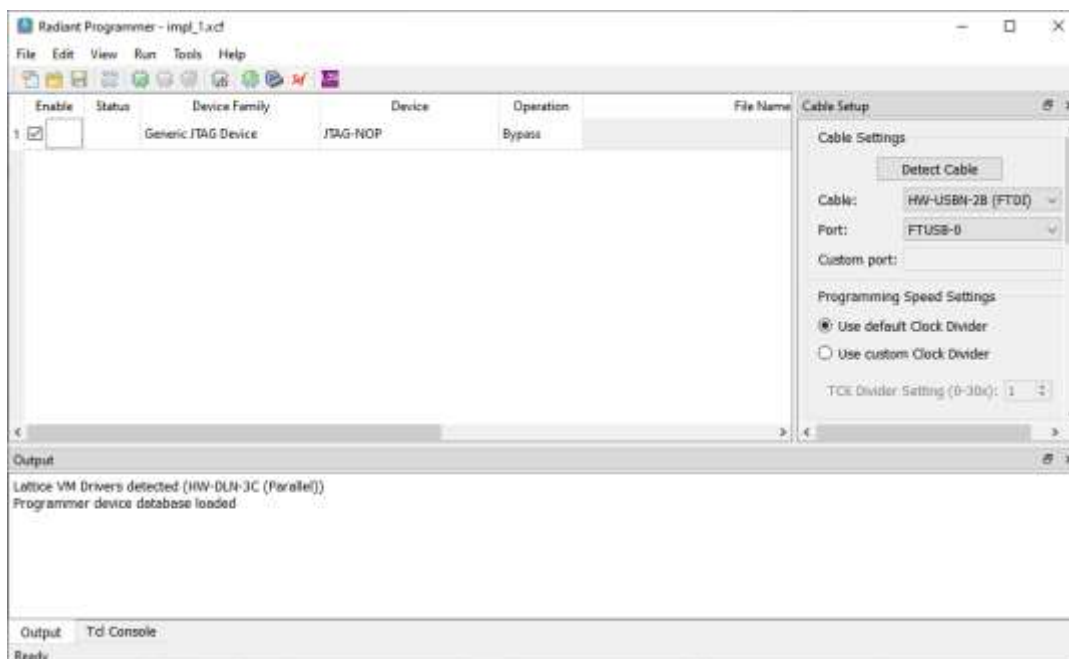

Figure 9.2. Radiant Programmer - Initial Opened
3. After the Radiant Programmer interface opens, as shown in Figure 9.2, power up MachXO5-NX Development Board by correctly positioning power switch **SW6**.